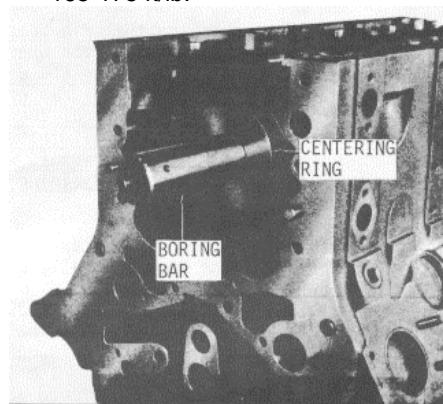

Fig. 3 Location of Boring Bar
- (2) Determine which two undamaged main bearing saddles are to be used as alignment locations. These saddles should be as far apart as possible. Since the rear main bearing saddle cannot be repaired with this tool set, it MUST be one of the undamaged saddles. In a block where the front and rear main bearing cap and saddle are serviceable, the journals in between can be repaired successively without removal of the centering rings from the front and rear positions. In the case where the only good main bearing bores are next to each other, the centering rings will have to be mounted there and marked for indexing. The closest bore will then be repaired. The rear centering ring will remain in position, but the other centering ring will be moved into the just repaired saddle so that the next damaged saddle can be repaired. The centering ring being moved should be indexed the same when moved from saddle to saddle.
- (3) Set the centering rings (4.8125") into the alignment saddles and install the main bearing caps. Do not tighten the bolts.
- (4) Slide the boring bar through the centering rings. Lubricate the ring hole during installation. The bar should rotate freely (Fig. 3). Tighten the main bearing cap bolts to the torque specified, 165-175 ft/lb.